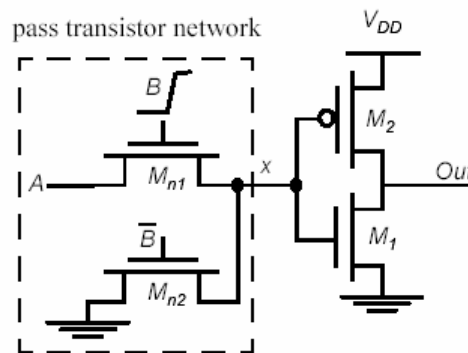

Figure 4.1
2. **Pass Transistor Logic:** Consider the circuit in Figure 4.1. Assume the inverter switches ideally at $V_{DD}/2$, neglect body effect, channel length modulation and all parasitic capacitance throughout this problem.
- e. Replace the pass-transistor network in Figure 4.1 with a *pass transistor* network that computes the following function: $x = ABC$ at the node x. Assume you have the true and complementary versions of the three inputs A, B and C.